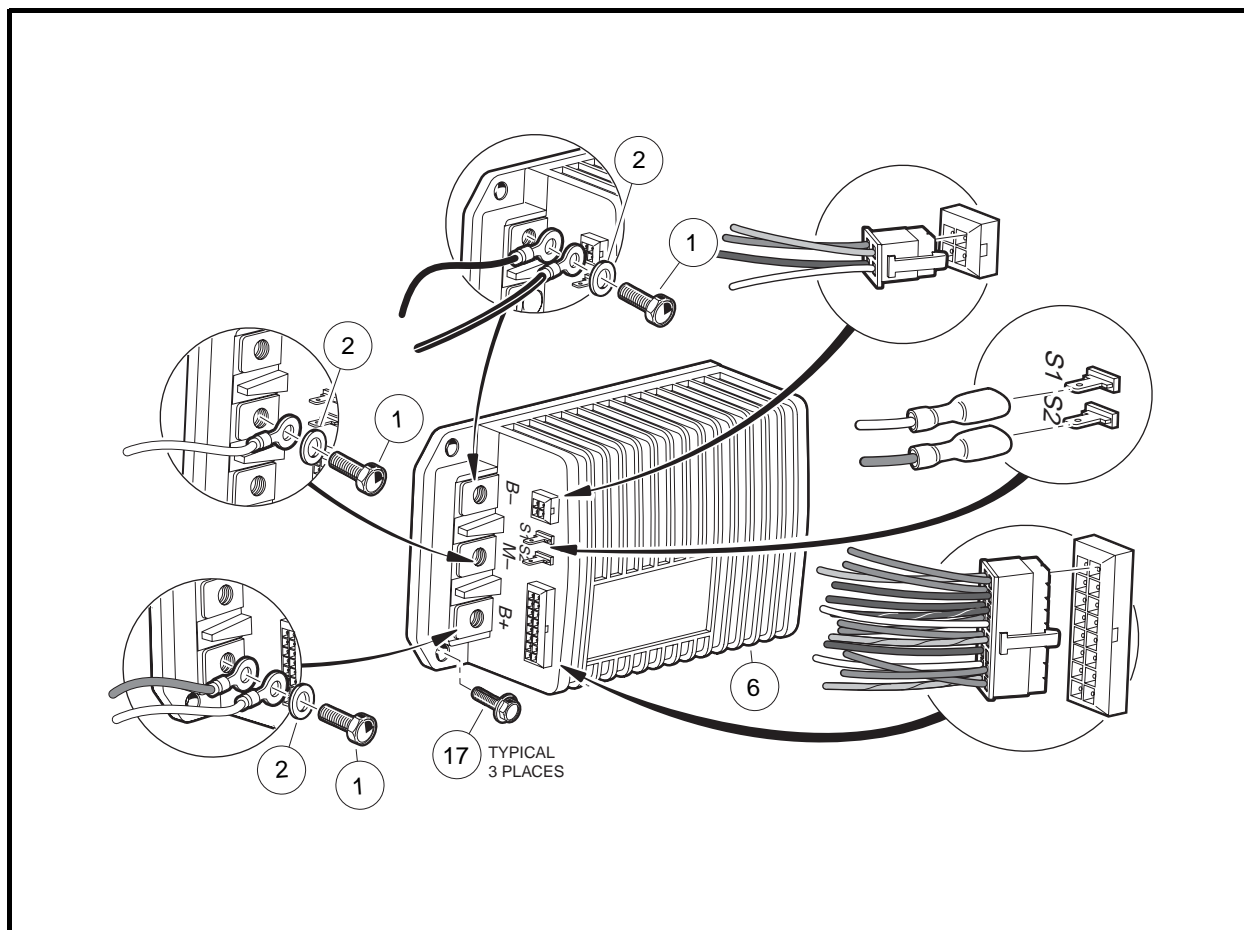

Figure 13-8 Speed Controller
4. Disconnect all wires and multi-pin connectors from the speed controller (**Figure 13-8, Page 13-10**).
5. Remove the three self-tapping screws (17) that hold the controller (6) to the component mounting plate and remove the controller from the vehicle.
1. Install the three self-tapping screws (17) that hold the controller (6) to the component mounting plate and tighten to 60 in-lb (6.8 N-m) (**Figure 13-8, Page 13-10**).
2. Using the wiring diagram, install the multi-pin connectors and all wires as illustrated. **See Wiring Diagram, Section 11, Page 11-10**. Tighten bolts (1) to 9 ft-lb (12.2 N-m) (**Figure 13-8, Page 13-10**).